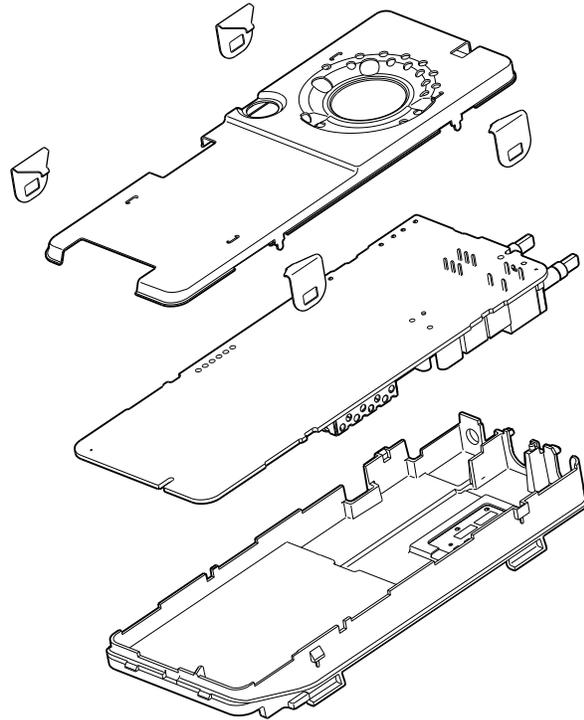

Figure 3-7.
3. After all four chassis clips have been removed, separate the main board from the chassis as shown in the exploded view Figure 3-7.